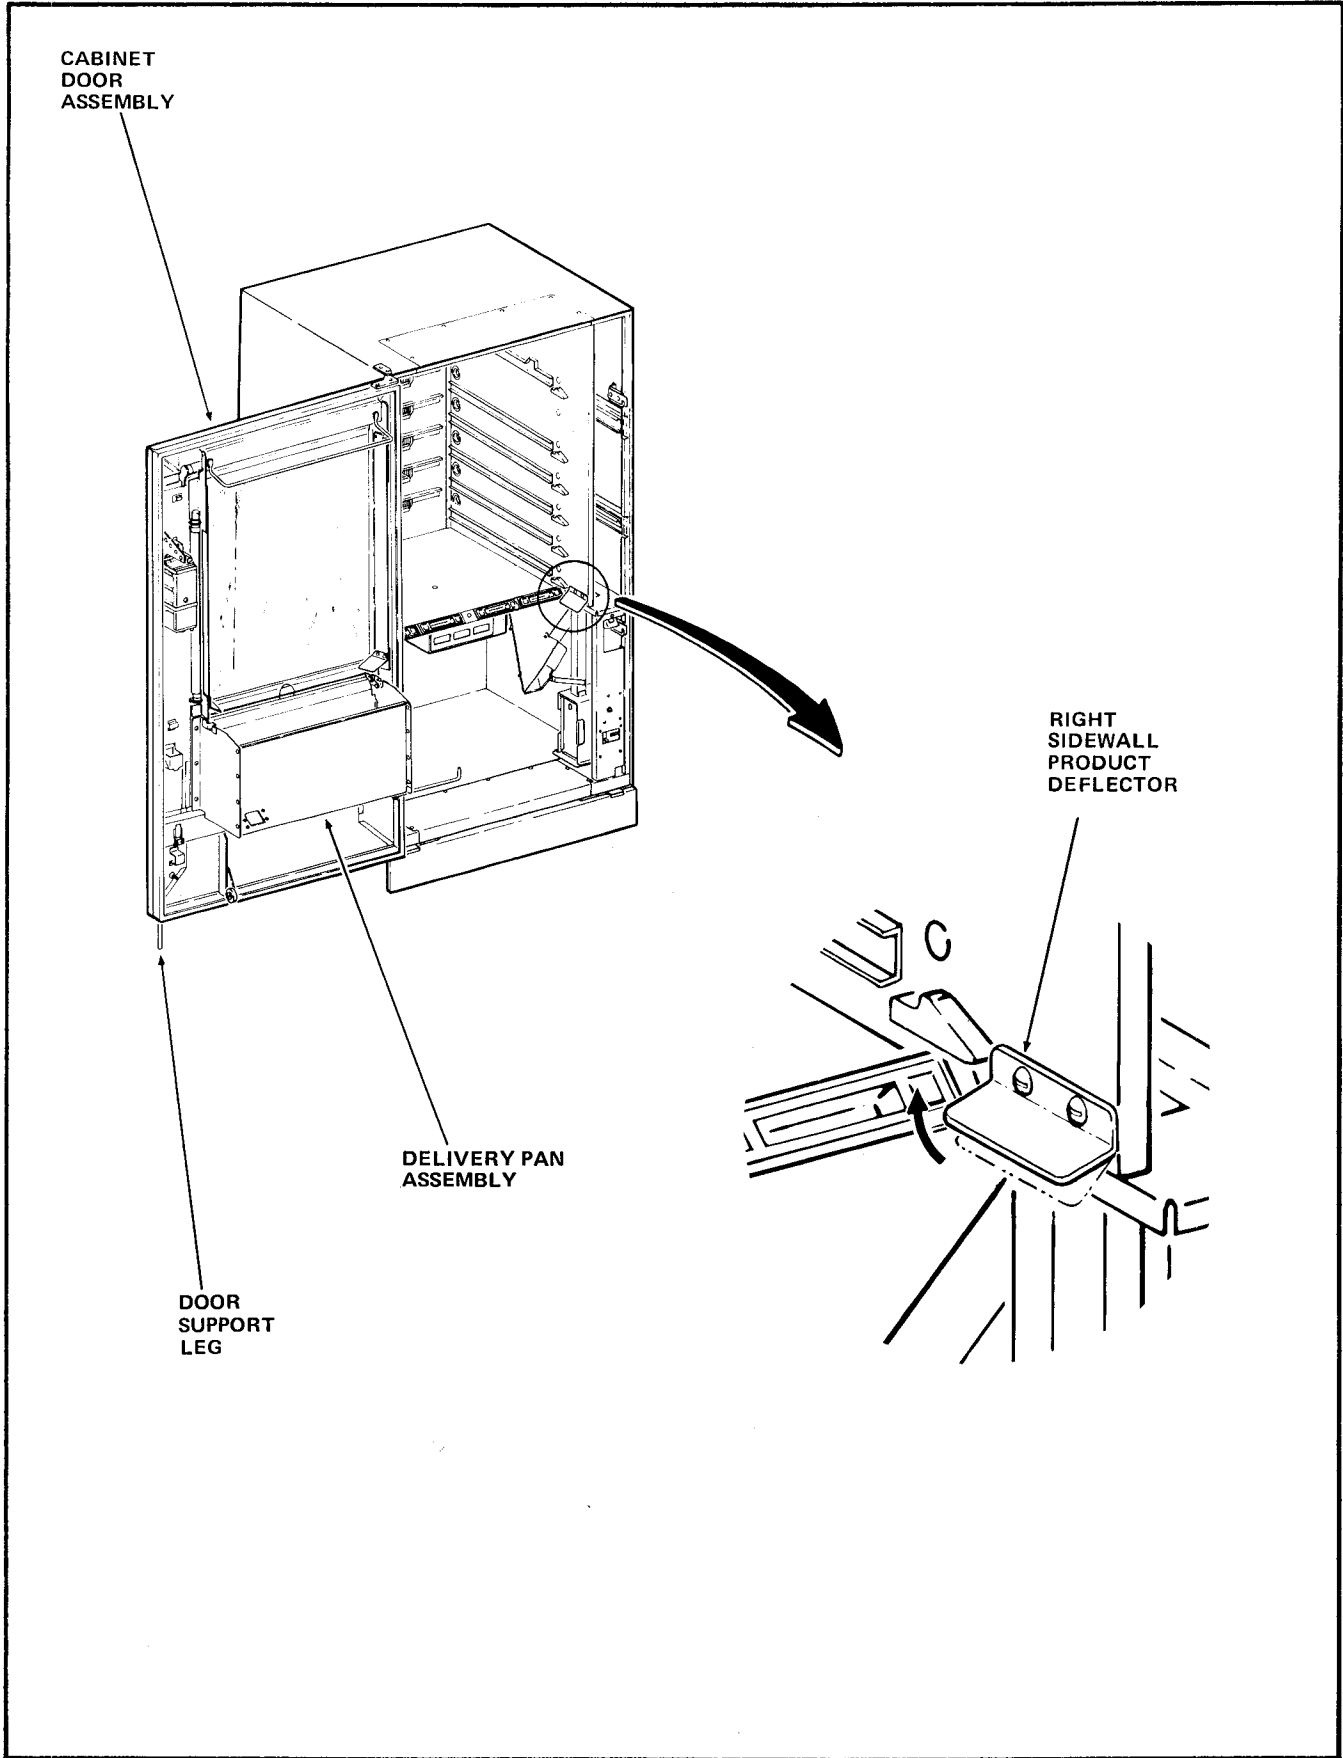

FIGURE 1
2. Unlock and fully open the Cabinet Door to expose the Delivery Pan Assembly. See Figure 1.
3. Ensure that the Door Support Leg is in position. See Figure 1.
7. Using pliers or vice grips bend the right Sidewall Product Deflector part number 141-1063 to approximately 70° or until sufficient clearance is obtained to clear the newly installed Guard. See Figure 1.